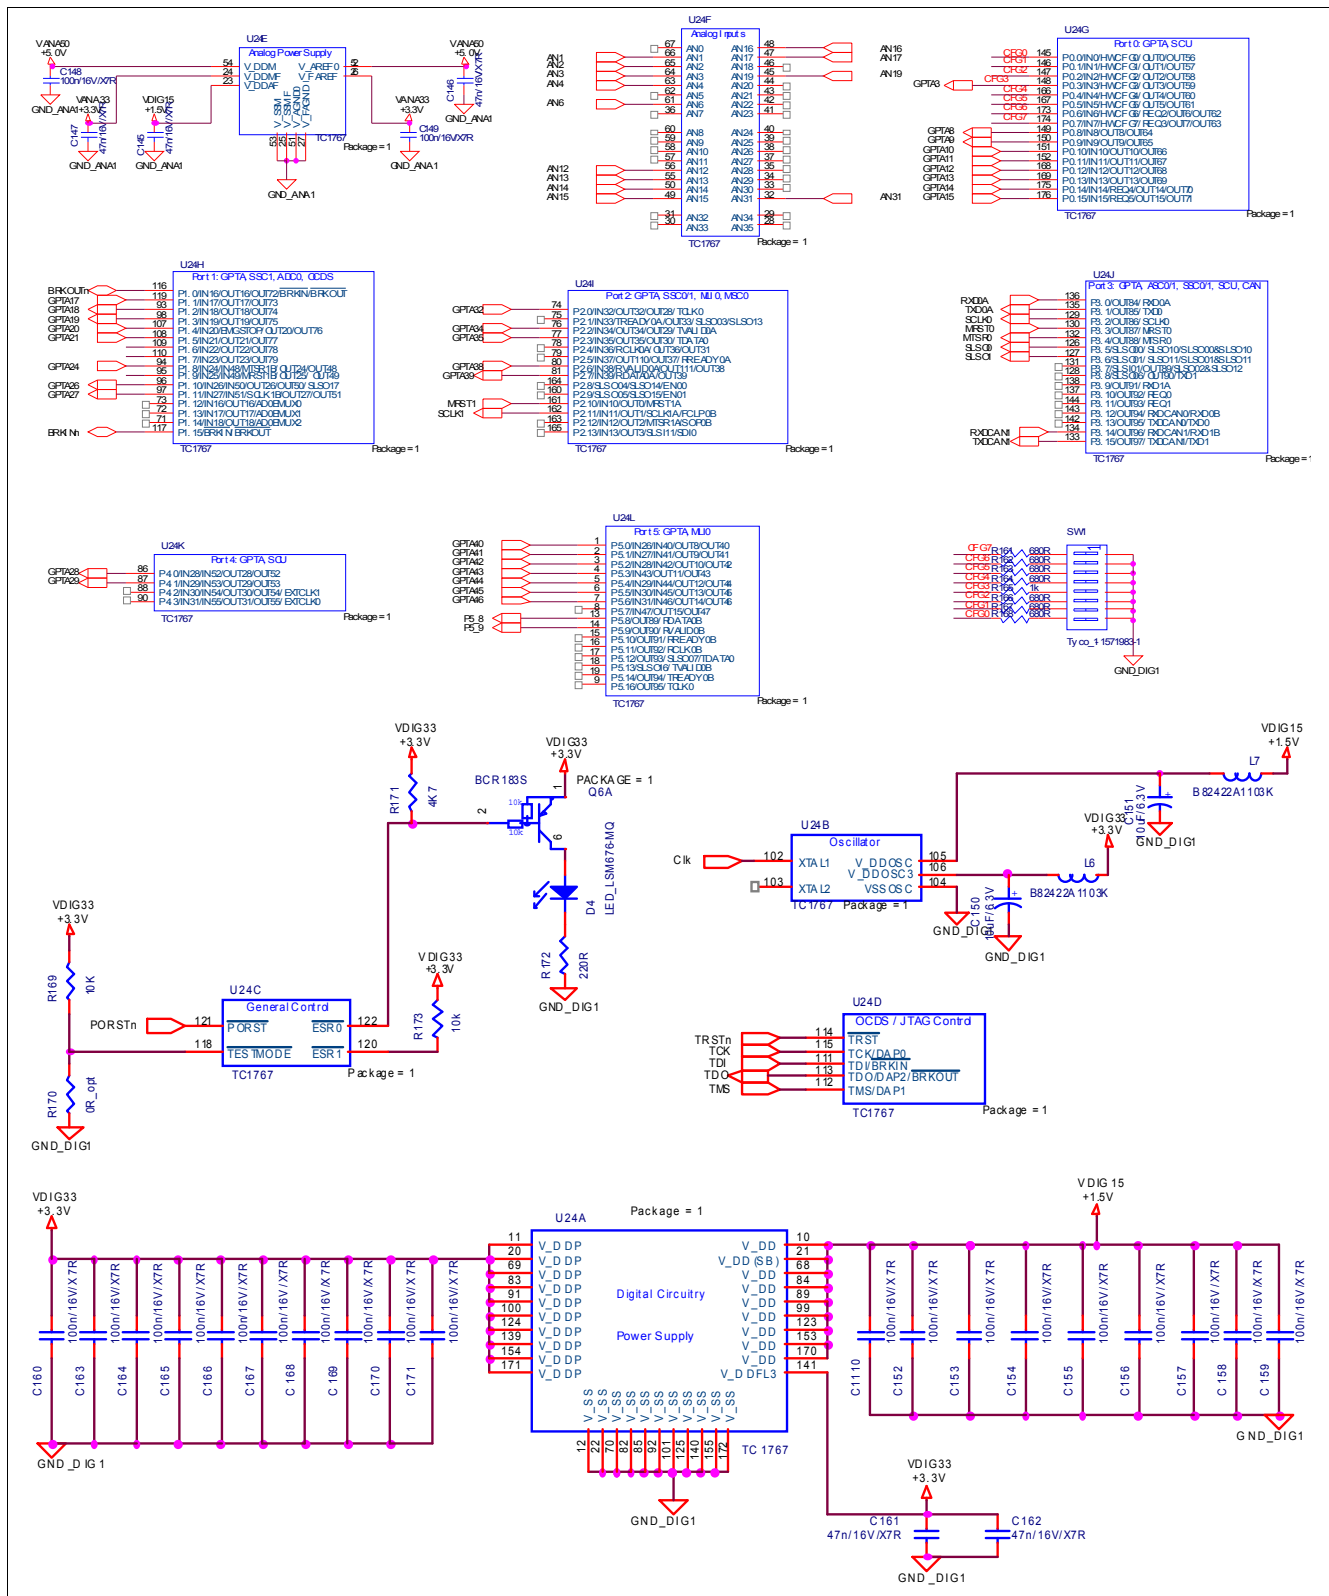

Figure 75 Microcontroller TC1767 Pin Assignment Logic Board v1.2
- TC1767 (Logic Board v1.2 on Figure 75 and Logic Board v1.3b on Figure 76) is a 32-Bit Microcontroller member of the Infineon Technologies AUO FUTURE product family designed for automotive applications. TriCore™ CPU providing high-end microcontroller performance combined with sophisticated DSP capabilities (please refer to datasheet for further details);